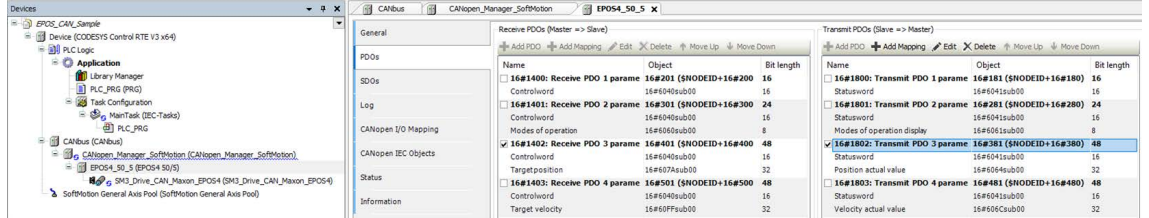

Figure 6-58 CANopen integration CODESYS | Configure PDO mapping
- 1) Open the «PDO» tab (see → Figure 6-58). Make sure that **PDO 3** is active.